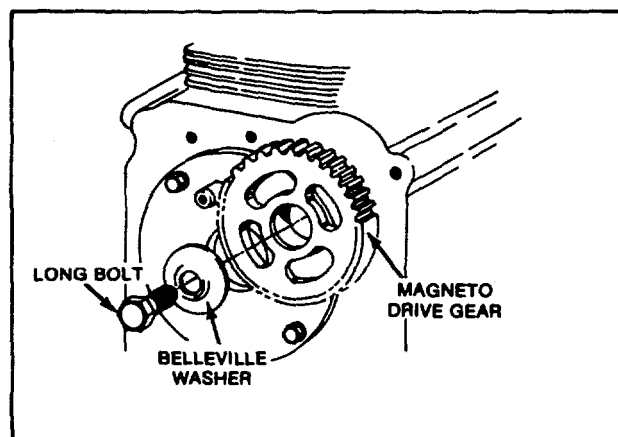
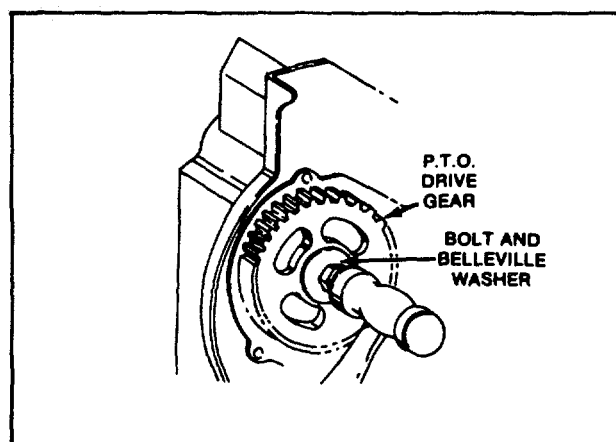
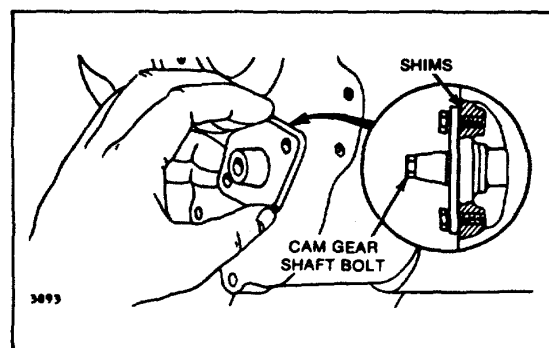

Fig. 5. Remove Short Bolt
Fig. 6. Remove Long Bolt
Fig. 7 - Removing Cam Gear Bearing
Remove short bolt and Belleville washer from P.T.O. drive gear, Fig. 5. Loosen long bolt and Belleville washer two (2) turns on magneto side and tap head of bolt with hammer to loosen cam gear shaft. Turn bolt out while pushing out cam gear shaft. Remove bolts from cam gear bearing, Fig. 6. While holding cam gear, remove cam gear bearing and remove cam gear, Fig. 7.
Loosen long bolt two (2) turns. Use hammer to drive out cam gear shaft and cam gear plug. Loosen bolt while pushing out cam gear shaft and plug. Remove bolts and cam gear bearing, Fig. 6. Remove cam gear, Fig. 7.